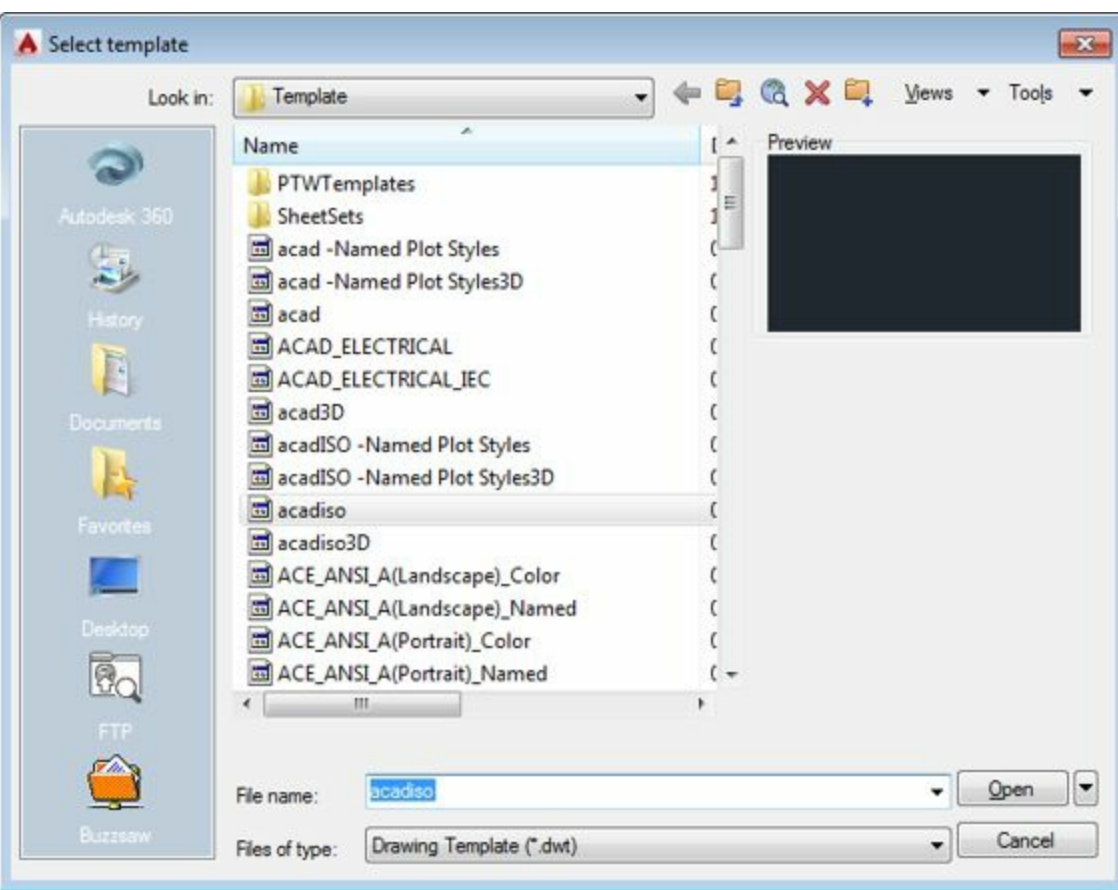

Figure-17. Select template dialog box
- Click on the **Drawing** option from the **New** options. The Select Template dialog box will be displayed; refer to Figure-17.